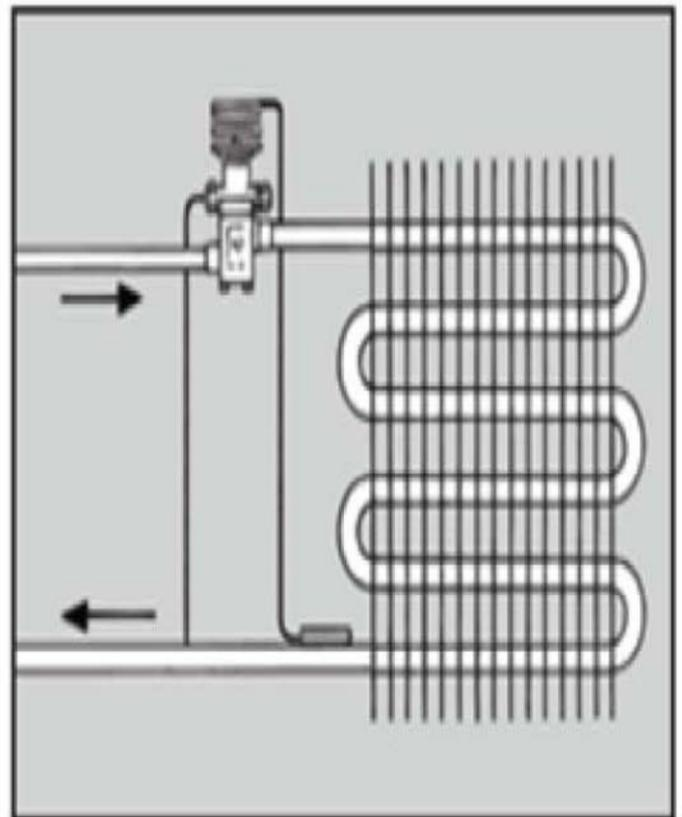

Figure 13: TXV Sensing Bulb Location
8. If you are using a single circuit for a 5 kW, 10kW, 15kW or 20kW model you will need to install a black jumper wire from the L1 terminal on circuit breaker #1 to the L1 terminal on circuit breaker #2 and a white or red jumper wire from the L2 terminal on circuit breaker #1 to the L2 terminal on circuit breaker #2. Refer to Figures 13, 14, 15, 16 and 17 for circuit breaker locations.